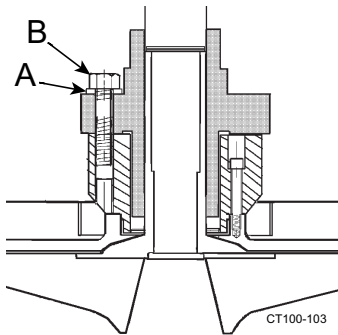

Figure 55 - Fastening Seal Unit in Place
7. Install the cartridge seal unit and use the retaining bolts (Figure 55, item B) and flat washers (Figure 55, item A) to secure the unit to the cartridge adapter. Do not tighten the retaining bolts yet.